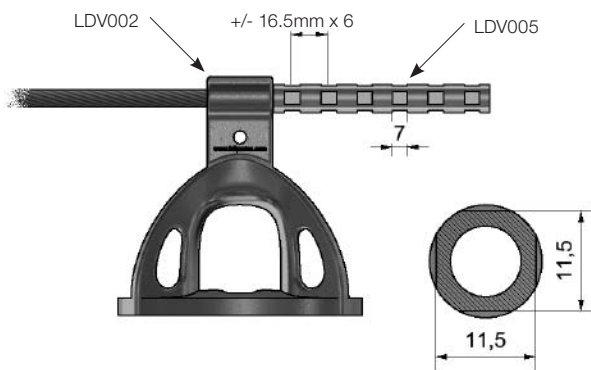

Fig. 19. Crimping ring LDV005
- Crimping ring LDV005 (Fig. 19)